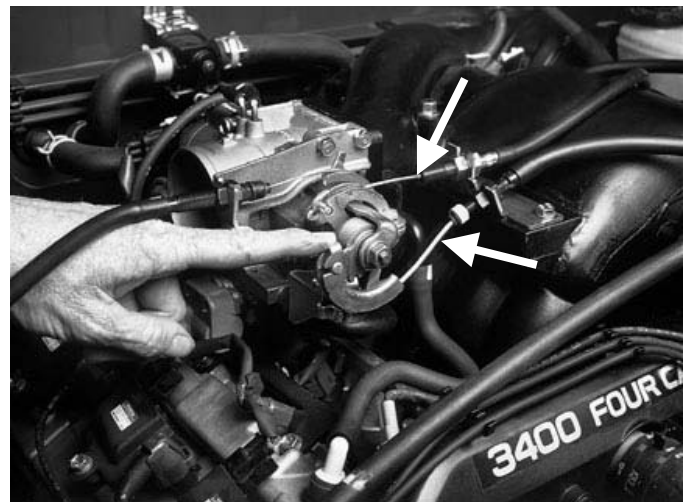

Figure 3
5. Remove the transmission kickdown cable and throttle cable (if necessary, Figure 3).